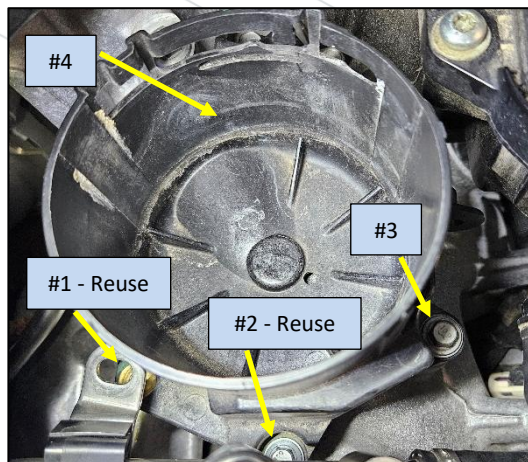
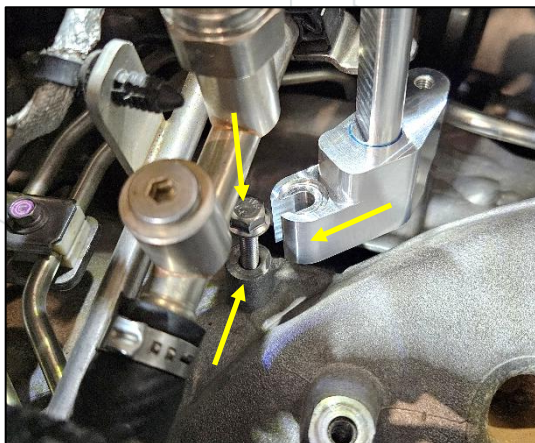
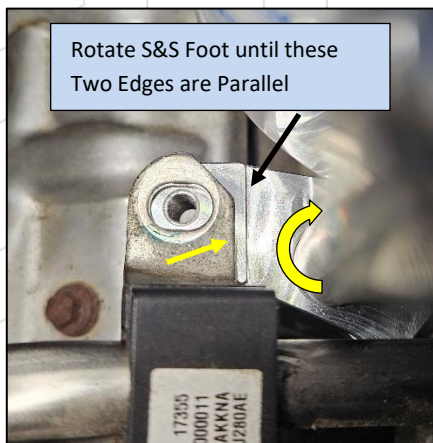

Figure 4: Remove the Fuel Filter Bowl
Figure 6: Install OEM bolt, then S&S foot
Figure 7: Rotate S&S foot until parallel
9. Remove the filter mounting bowl by removing the 4 bolts shown in Figure 4. **Bolts #1 and #2 will be REUSED** in the same positions.
11. Install bolt #2 from Figure 4 back into the hole under the metal fuel supply line as shown in Figure 6.
13. As shown in Figure 7, rotate the S&S mounting foot until the fuel line bracket and the mounting foot's raised pad are parallel and the hole aligns. Torque the mounting foot bolt to 89 lb-in using an 8mm socket on a ¼" wobble extension.
14. Reusing the OEM bolt (#1 from Figure 4), attach the fuel line bracket in Figure 7 to the S&S mounting foot and torque to 89 lb-in using an 8mm socket.